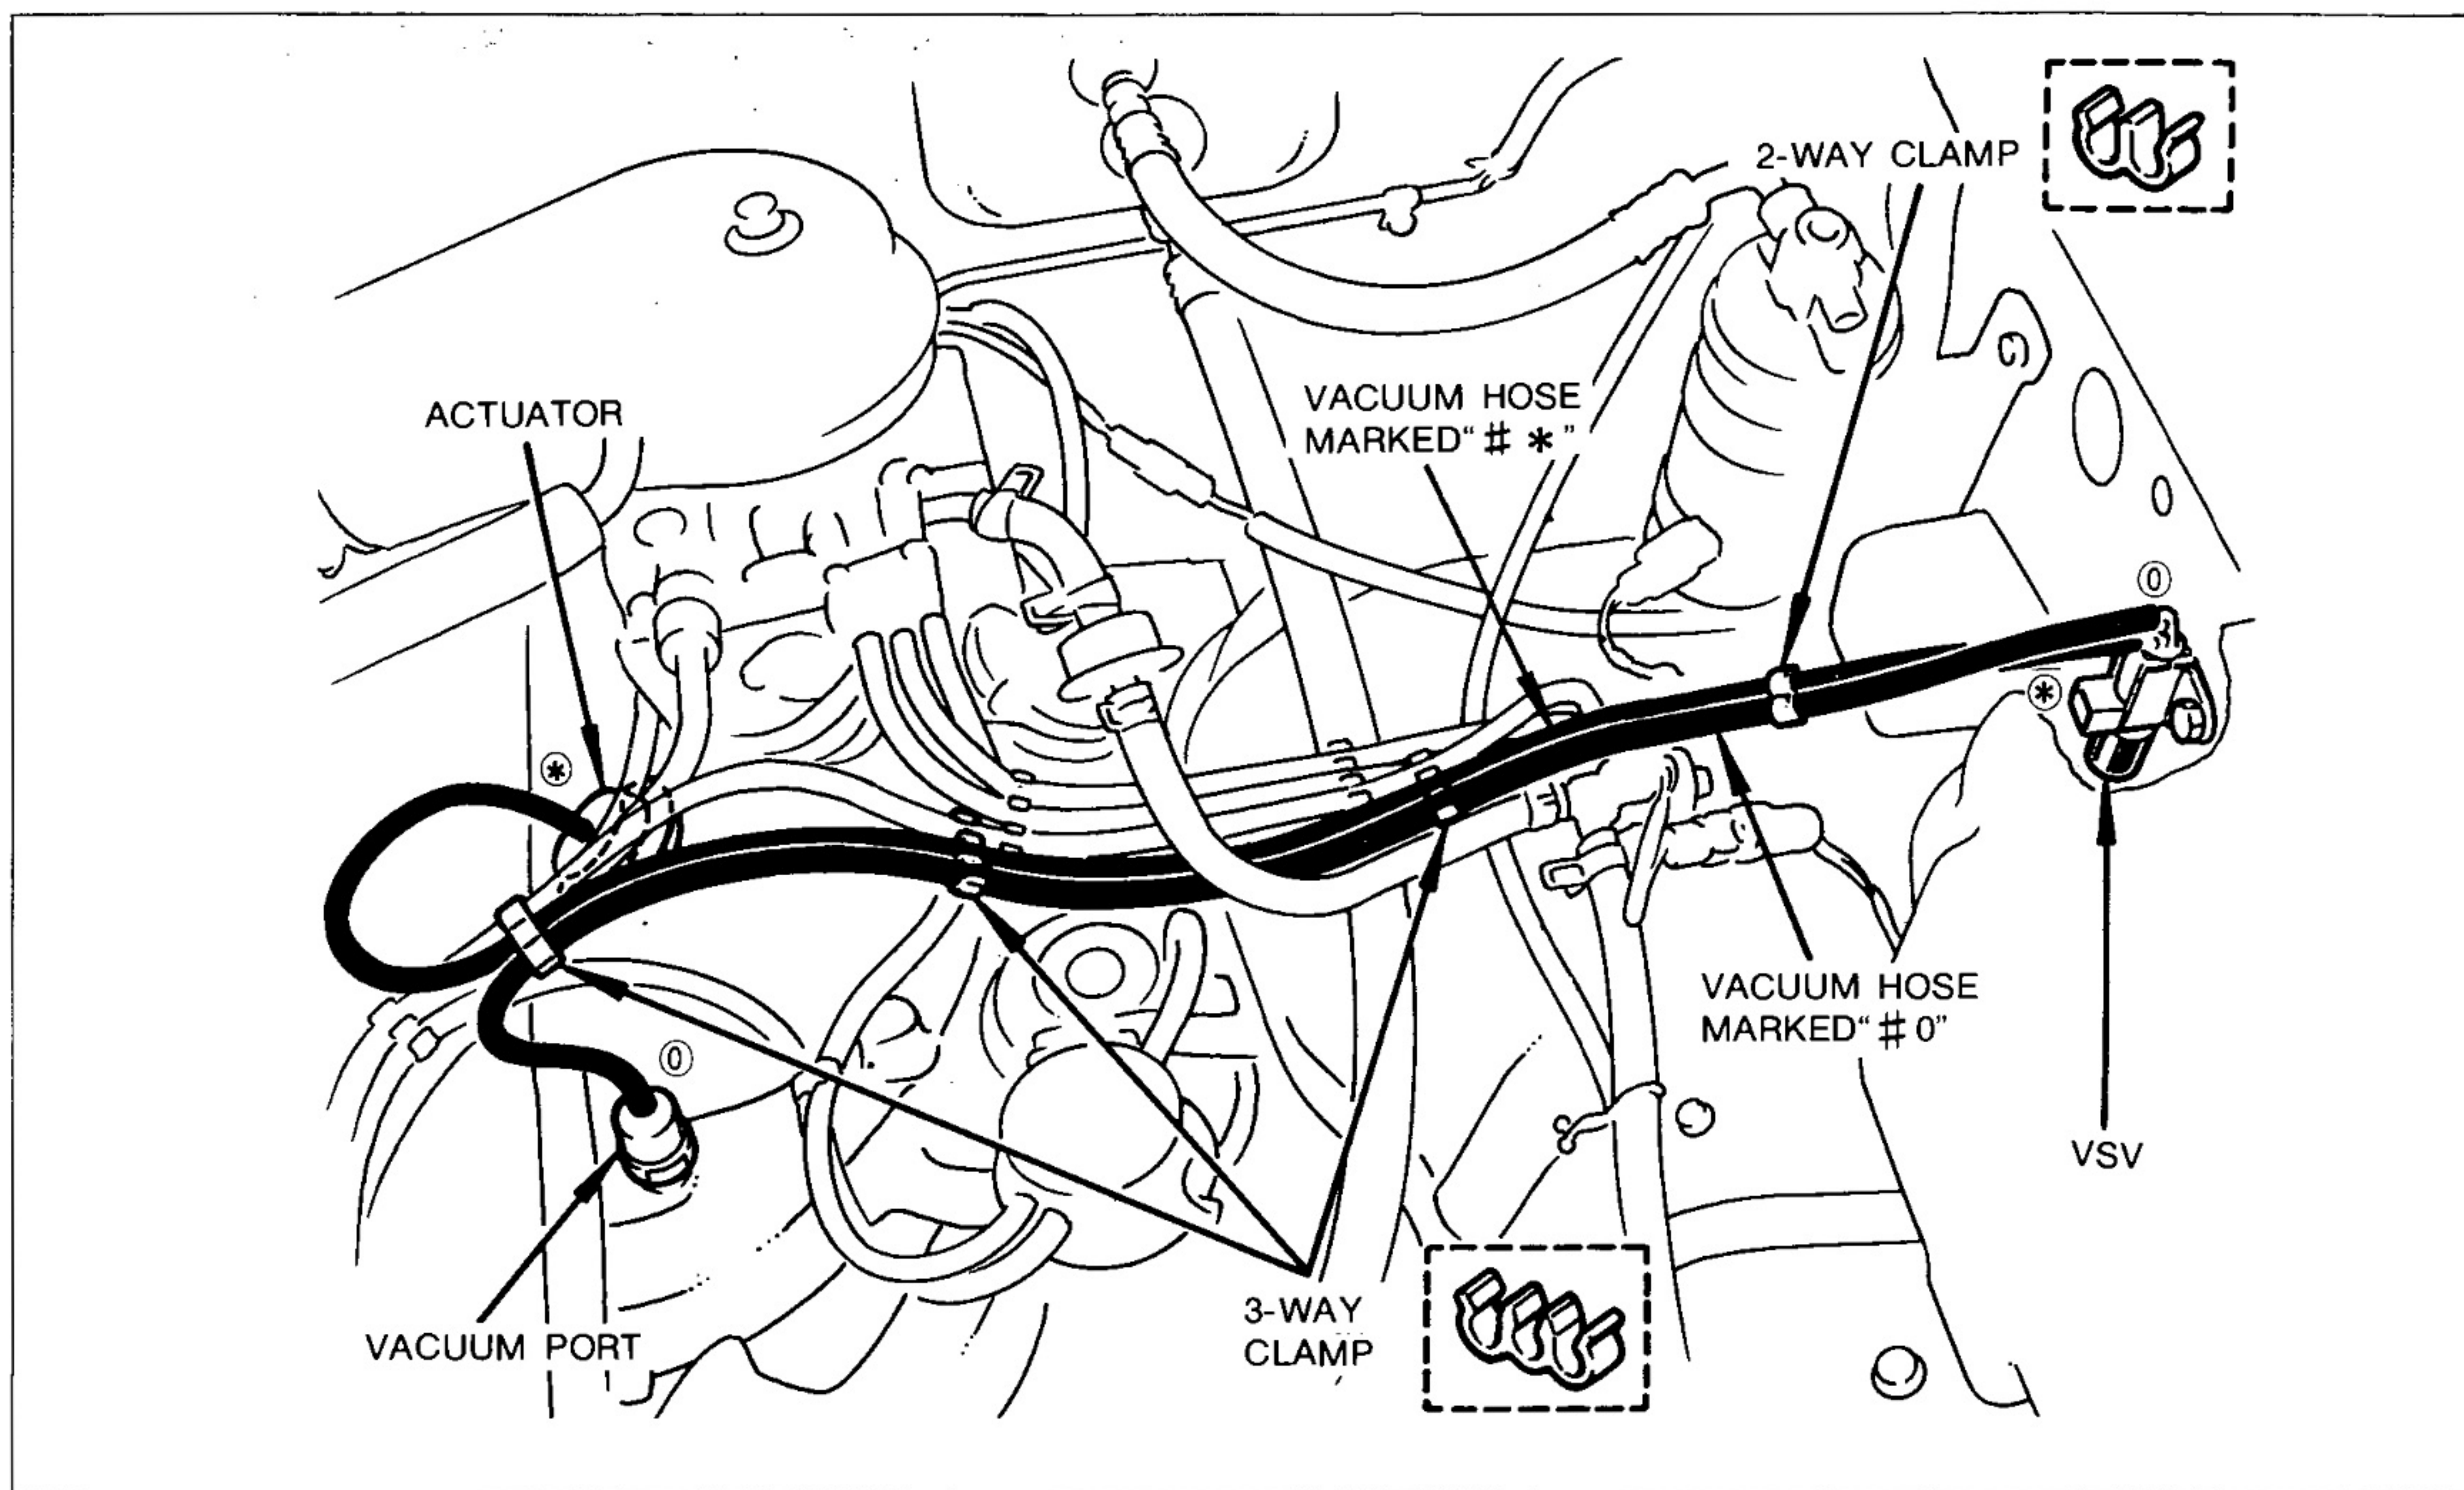

Fig.45
(4) VACUUM HOSE
- (c) Fasten the vacuum hose using the four clamps as shown in Fig. 45